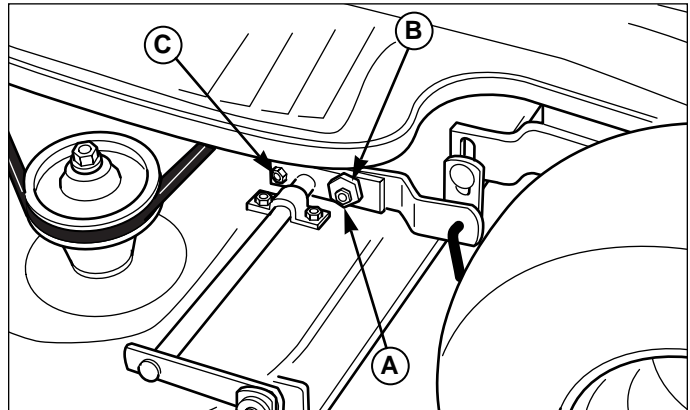

Figure 33. Side-to-Side Adjustment
5. See Figure 33. Loosen the outside nut (A) and tap-tite screw (C), then turn the eccentric nut (B) to raise or lower the left side of the deck. When the mower deck is level, hold the eccentric nut while tightening the outside nut. Tighten the tap-tite screw (C).